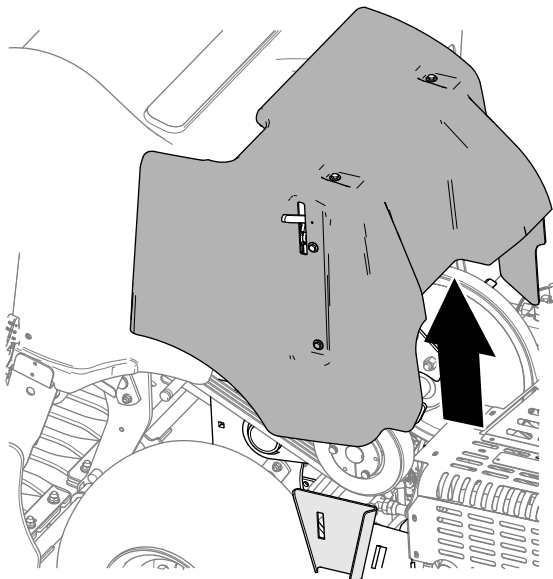

**Figure 132**
3. Lift the belt cover from the machine (Figure 132).